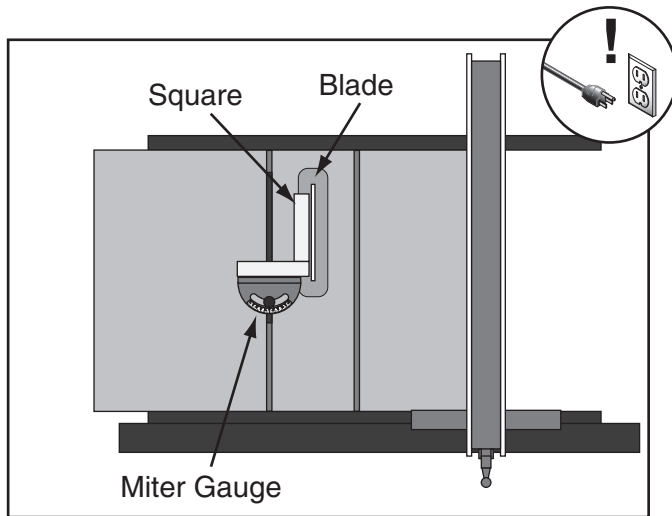

Figure 125. Checking 90° stop on miter gauge.
5. Place square evenly against face of miter gauge and blade, as shown in **Figure 125**.